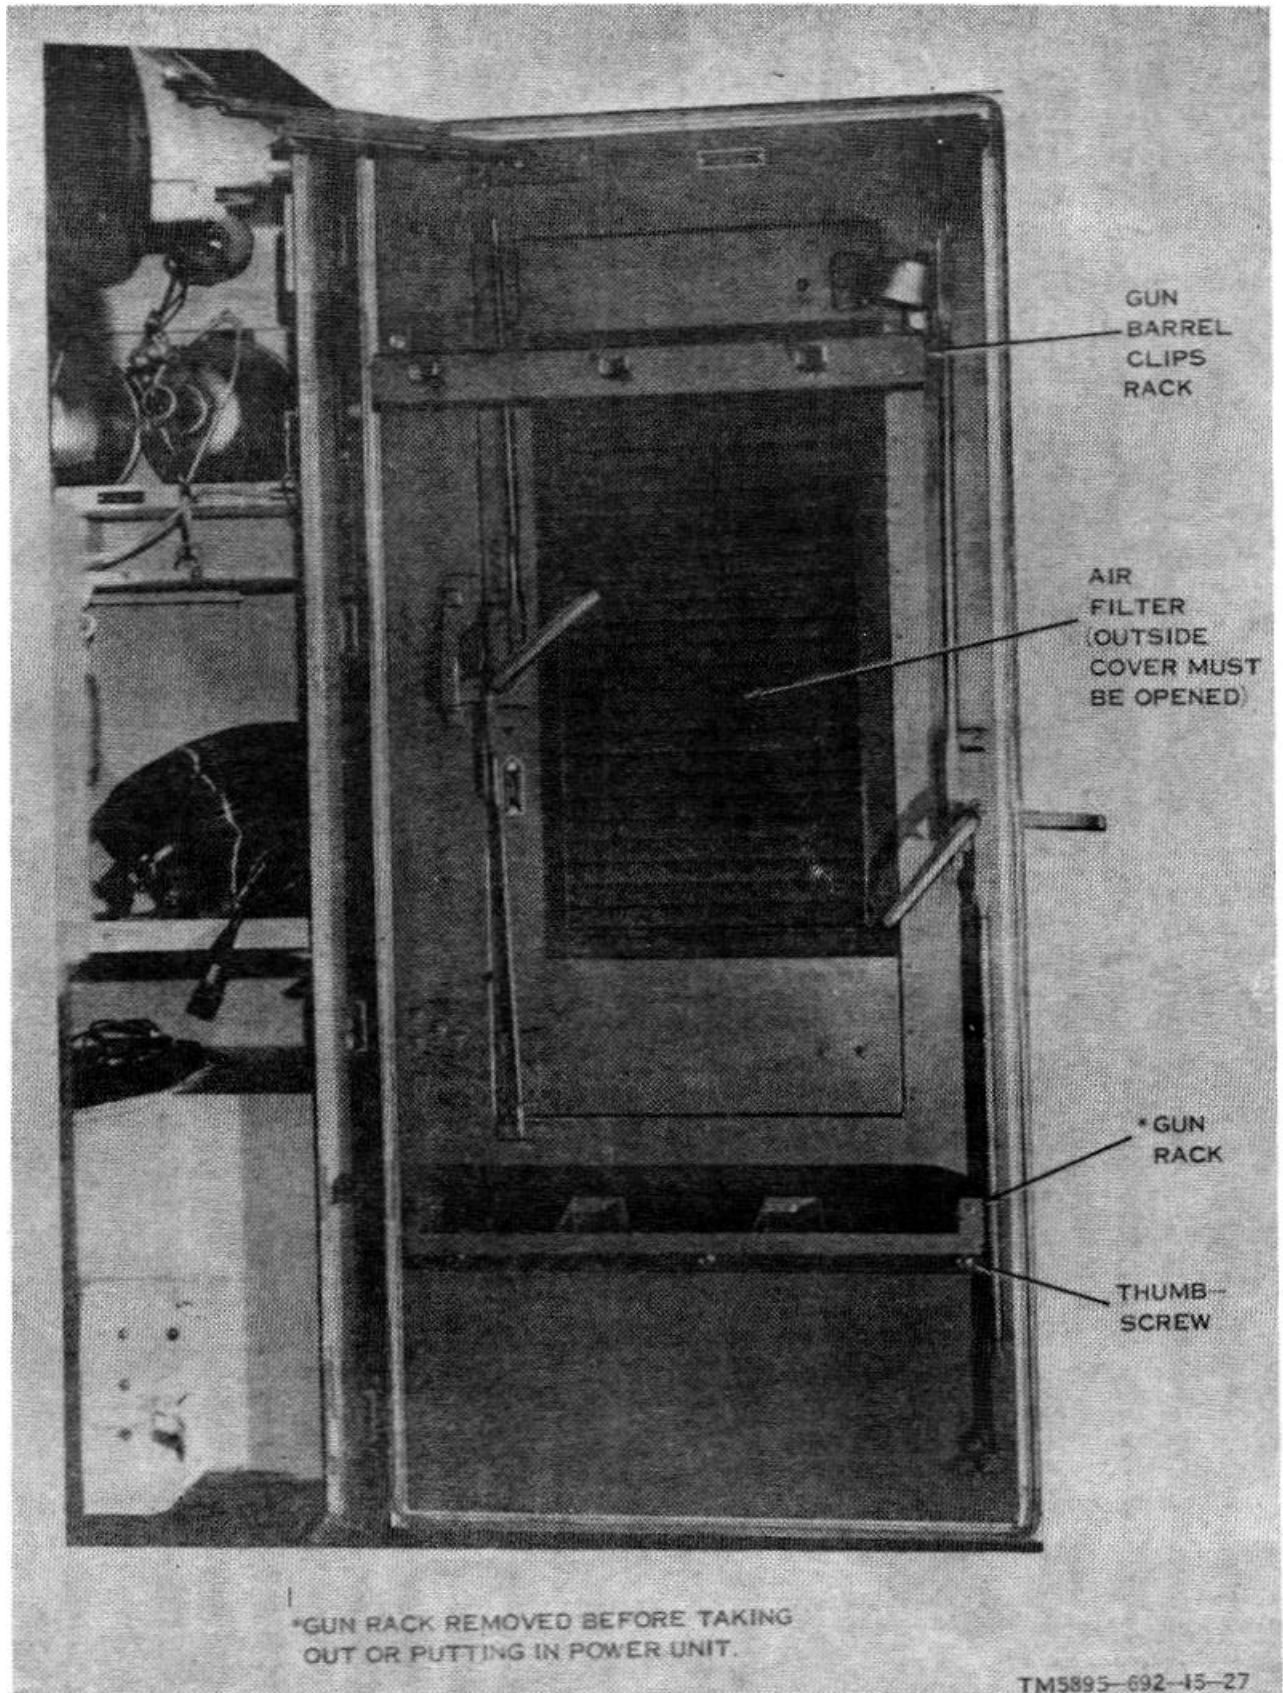

Figure 3-5. Inside of rear door of shelter.
(4) Remove the gun rack from the bottom of the shelter door (fig. 3-5). Put the thumbscrews that held the gun rack back in their receptacles in the door so that they will not be lost.
(5) Remove the power unit from the shelter as follows: